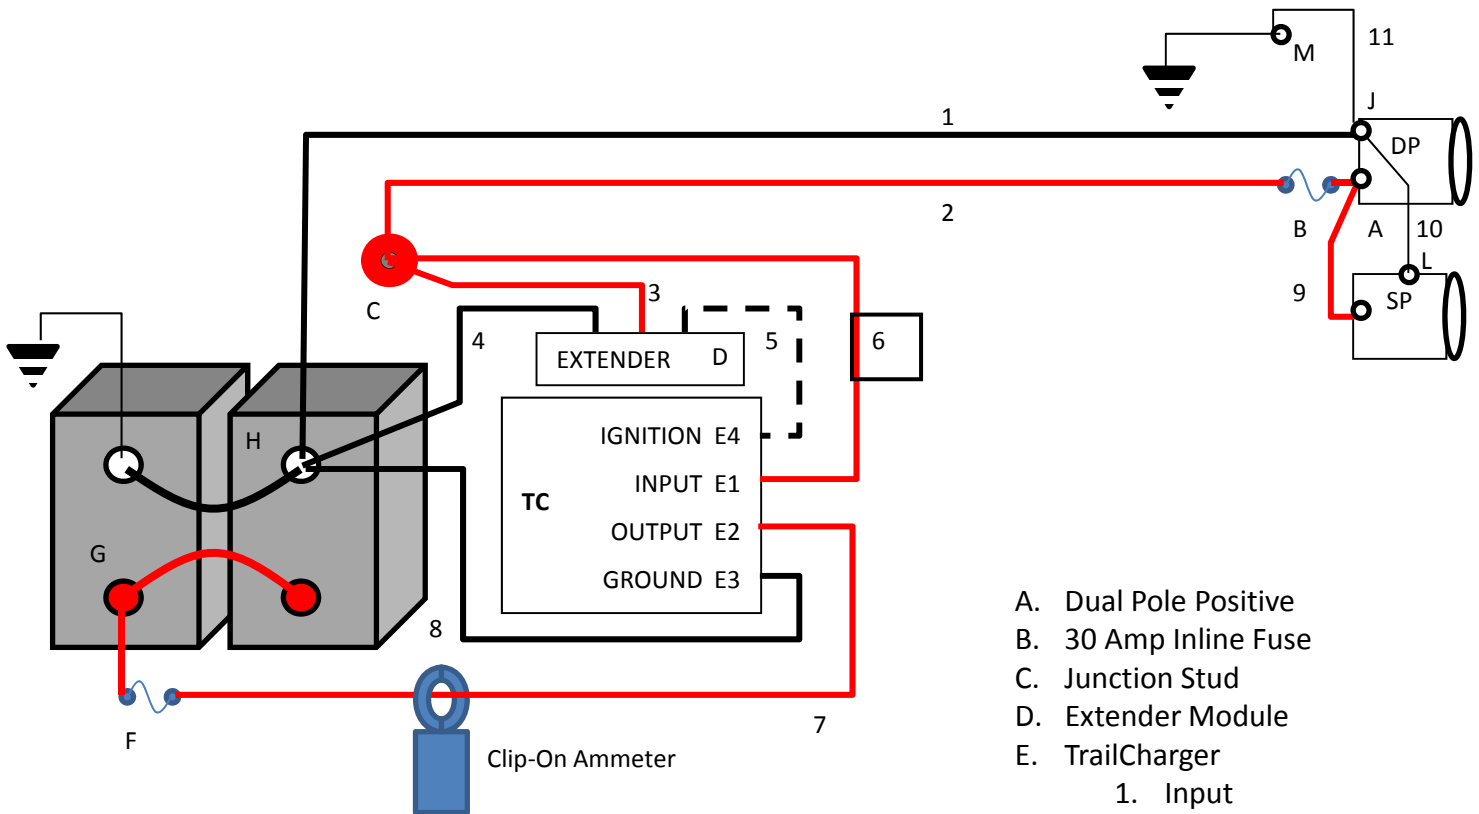

Figure 3
6. With the harness plug removed, check the voltage reading between the ground pin (E3) and the liftgate battery positive (G). This should be the same as battery voltage. If yes, continue to step 7. If no, repair the lead from pin (E3) to liftgate battery negative (H).
7. With the harness plug removed, check the voltage reading between the output pin (E2) and the liftgate battery negative (H). This should be the same as battery voltage. If yes, continue to step 8. If no, check the 30 amp fuse cube (F). If the fuse is blown, repair the circuit and replace the fuse cube (F). If the voltage reading between the output pin (E2) and the liftgate battery negative (H) is still not the same as battery voltage, repair the lead from the output pin (E2) to the liftgate battery positive (G).
8. Check the voltage between the liftgate battery negative (H) and the dual pole receptacle negative (J). The meter should read zero. If not zero, repair the ground wire between (H) and (J).
10. Hook a clip-on ammeter around the output cable between the output pin (E2) on the Trail Charger plug and the liftgate battery positive (G) then check the voltage with a voltmeter between (G) and (H). See figure 3.